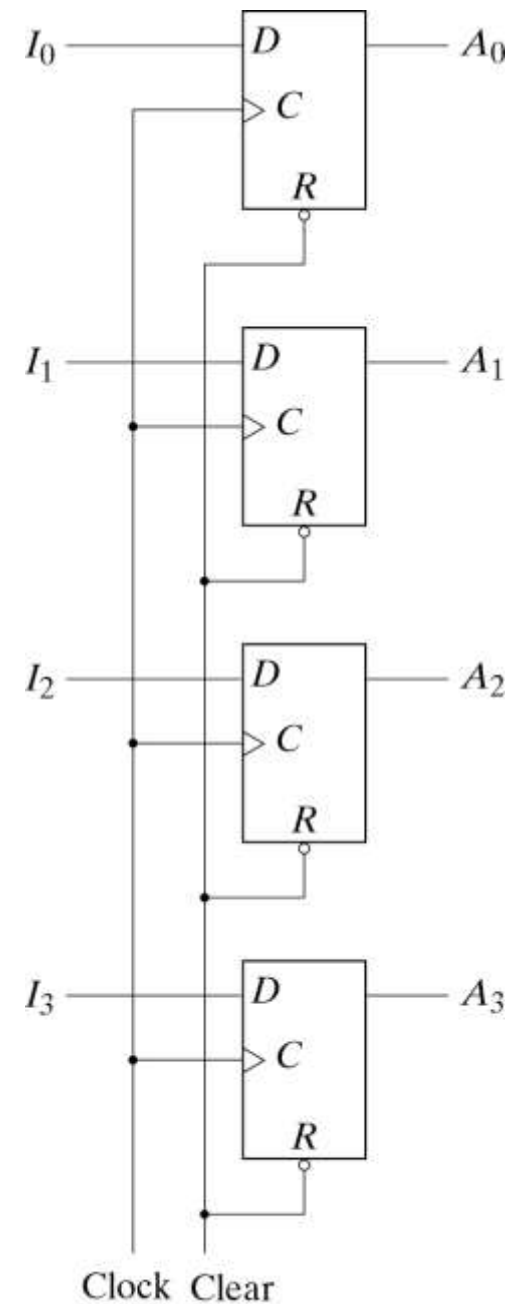

Fig. 6-1 4-Bit Register
- A clock edge applied to C inputs of the register (Fig 6-1) will load all inputs in parallel